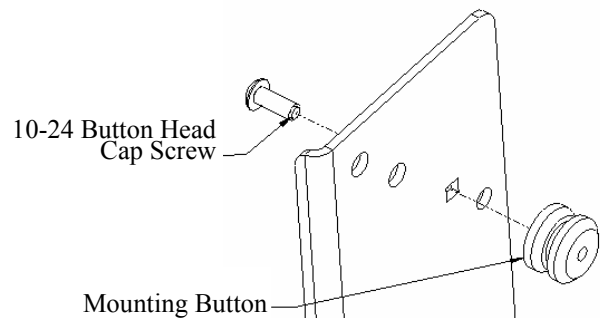
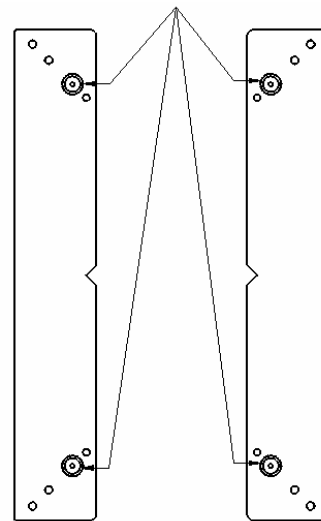

Figure 4. Mounting Button Attachment
Figure 5. Mounting Button Location
1. Using a 10-24 button head cap screw inserted from the backside of the bracket (see Figure 4), secure the mounting button with the chamfered hole of mounting button (larger surface) facing the bracket (see Figure 5).